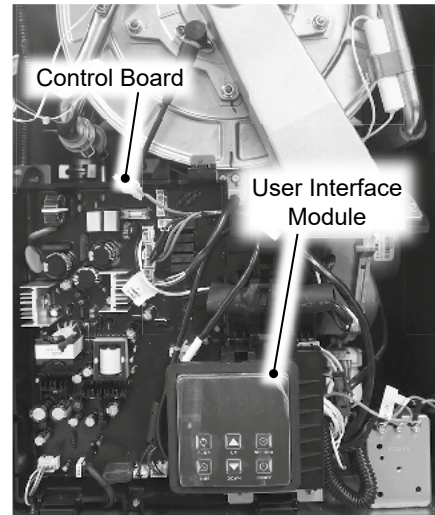

Figure 1 - User Interface Module
5 Locate the user interface module on the bottom front of the water heater. See Figure 1.
- 13 Locate the control board on the bottom front of the water heater. See Figure 1.